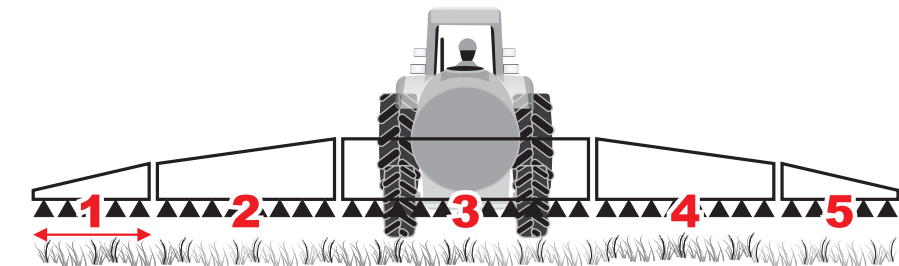

Fig. 49
- Enter the measurements of the implement sections (Fig. 49).